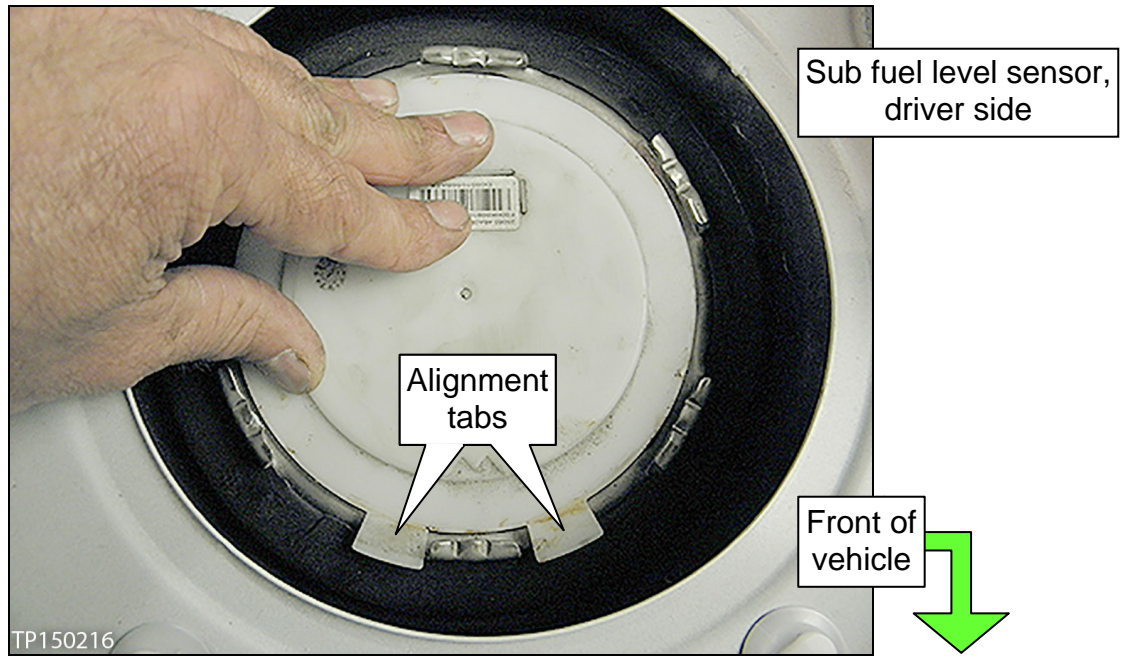

Figure 3
- Observe the alignment of the sub fuel level sensor tabs (see Figure 3).